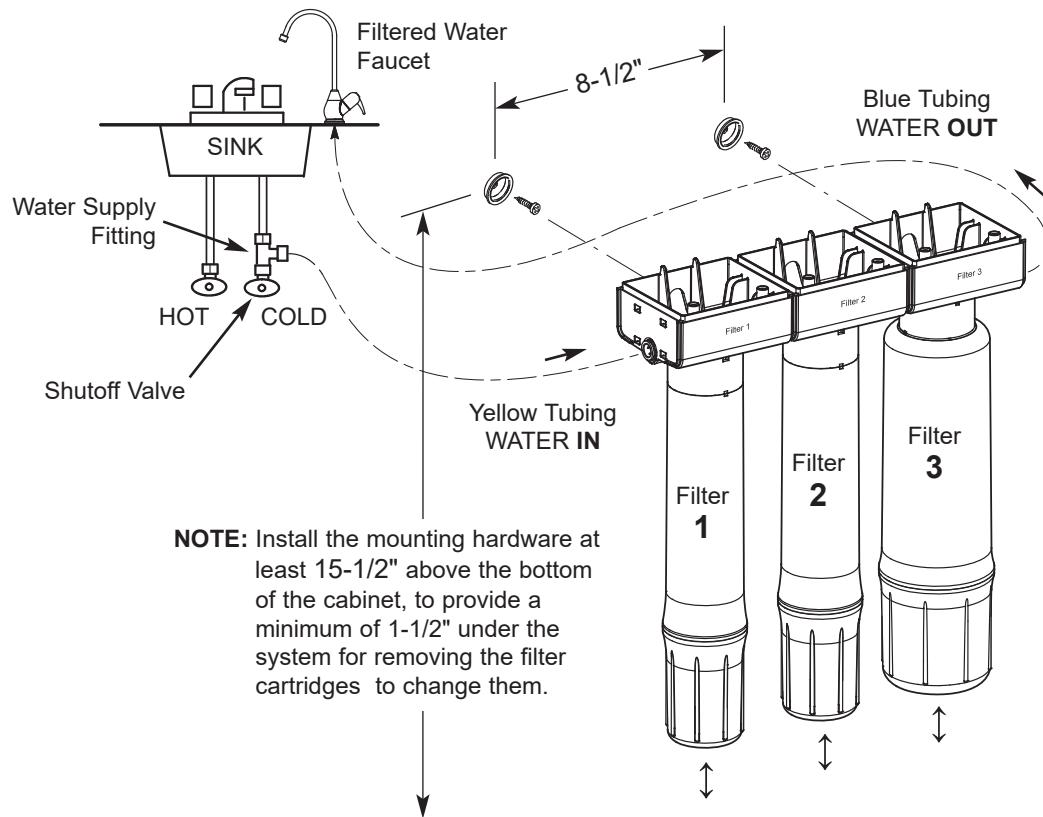
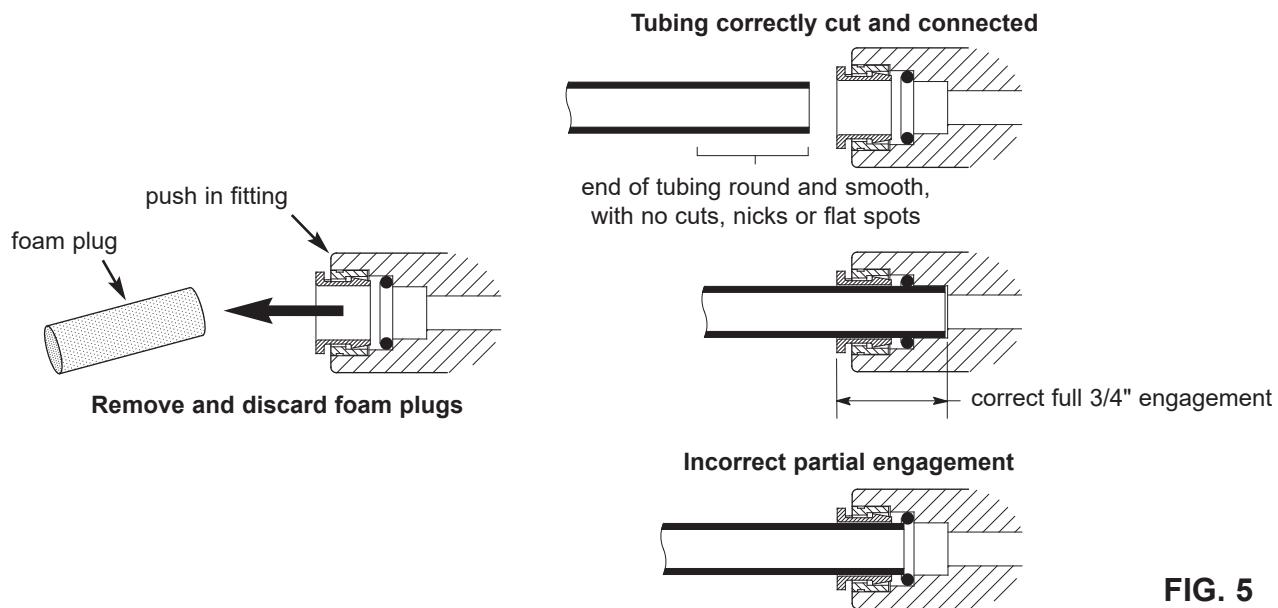

FIG. 2
FIG. 5
IMPORTANT: Remove protective foam plugs before connecting tubes (See Fig. 5). Discard foam plugs.
1. Allowing some slack, measure and cut a length of 3/8" tubing to connect between the supply fitting and the filter system inlet (See Figure 2). Cut the ends of the tubing square (See Fig. 5).
3. Repeat steps 1 and 2 to connect tubing from the faucet to the filter system outlet (See Figure 2).